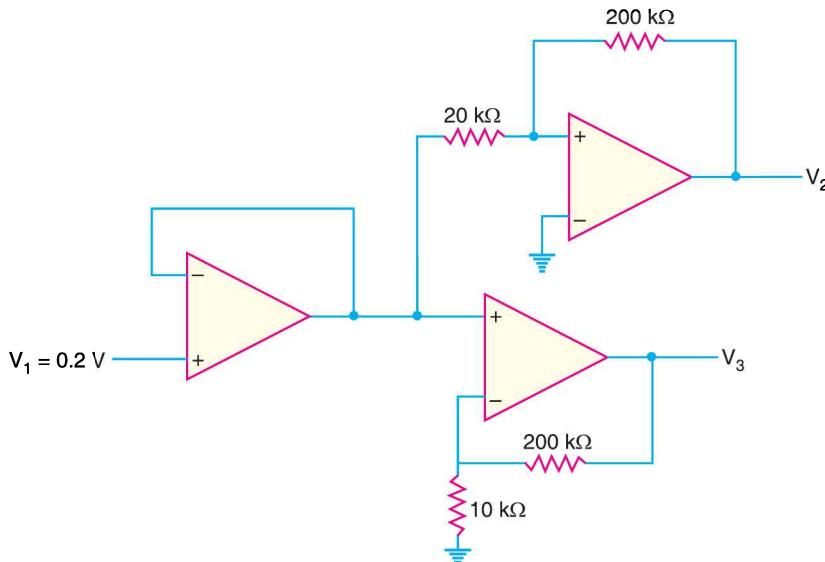

Fig. 25.108
15. Calculate the output voltages  $V_2$  and  $V_3$  in the circuit of Fig. 25.108.  $[V_2 = -2 \text{ V}; V_3 = 4.2 \text{ V}]$